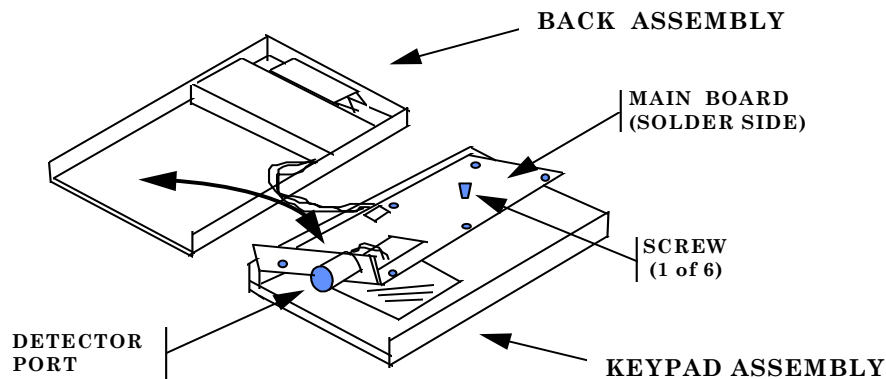
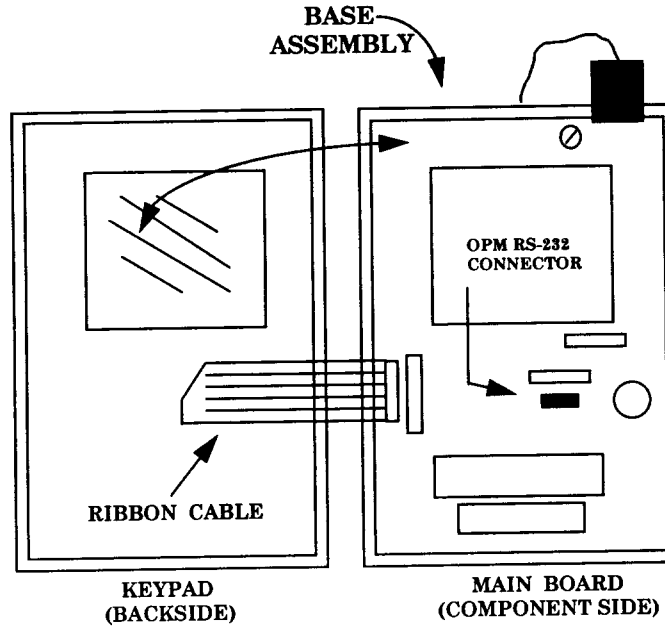

Figure 2. OPM back assembly removal from main board and keypad assembly.
Figure 3. OPM RS-232 connector location.
- (1) Ensure OPM power is turned **OFF**.
- (2) Remove six screws from back of OPM case.
- (3) Carefully lift **BACK ASSEMBLY** up and away from **MAIN BOARD** and **KEYPAD ASSEMBLY** (fig. 2).
- (4) Remove six screws from **MAIN BOARD** (fig. 3).
- (4) Remove six screws from MAIN BOARD (fig. 3).
- (5) Carefully lift MAIN BOARD (fig. 2 and 3) and place on BACK ASSEMBLY (fig. 2); leave RIBBON CABLE connected (fig. 3).
- (6) Connect RS-232 cable to OPM RS-232 CONNECTOR (fig. 3) and other end of RS-232 cable to serial port on computer.
- (7) Place floppy disk containing calibration software in disk drive (obtain **A:** prompt) and type **TS4358**, then press **ENTER** key on computer keyboard.
- (8) Press **ON/OFF** pushbutton to **ON**.
- (9) Follow instructions which appear on screen.